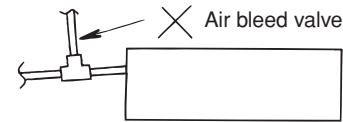

Fig. 3-41
- Do not install an air bleeder as this may cause water to spray from the drain pipe outlet. (Fig. 3-41)